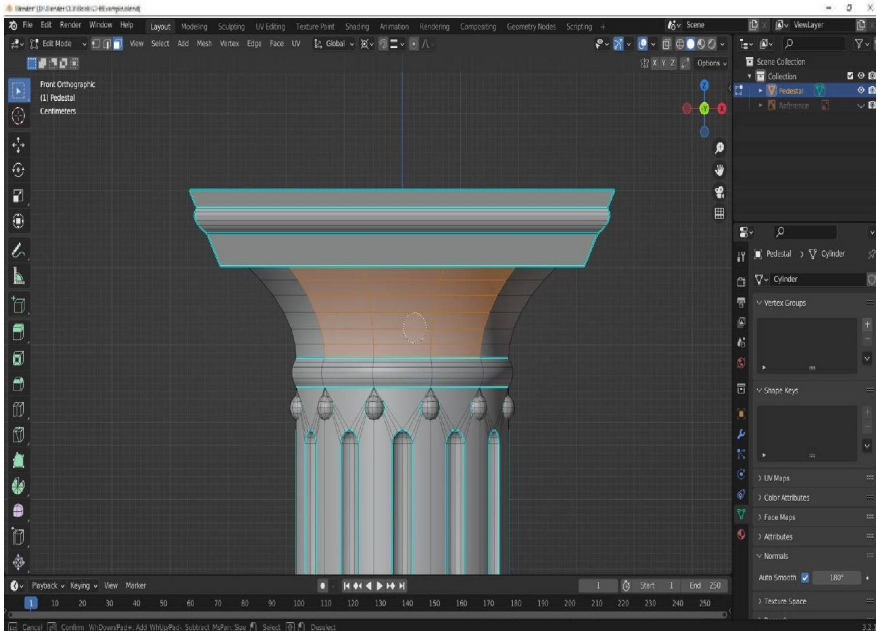

Figure 6.6: Circle Select mode enabled to paint a selection of the geometry we intend to sculpt
2. With the Pedestal object selected, enter **Edit Mode**, and using Circle Select by pressing the **C** key and right-clicking and dragging, paint a selection of just the front-most faces in this curved top section, as shown in *Figure 6.6* middle mouse-click if needed to deselect anything outside this section, then right-click to confirm.